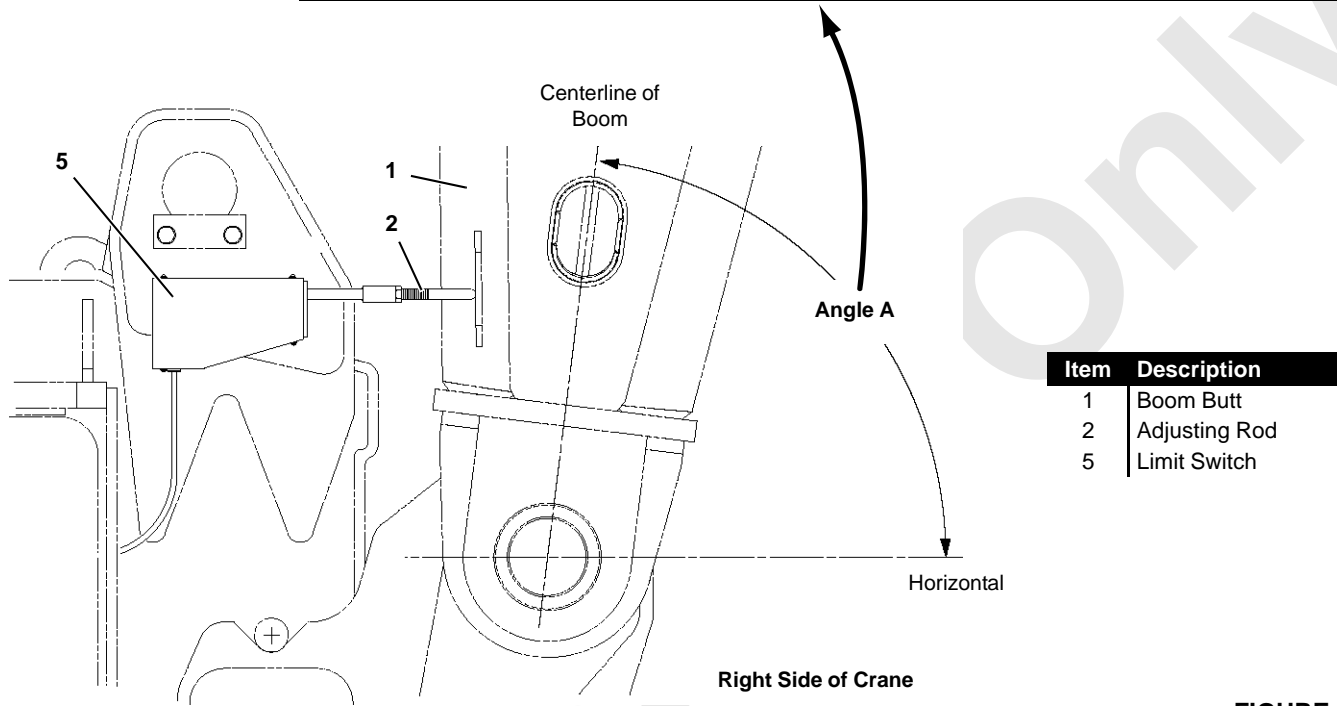

FIGURE 6-2
2. Have an assistant push adjusting rod (2, Figure 6-2) in to trip the boom stop limit switch open.
Boom stop limit switch (5, Figure 6-2) automatically stops the boom and applies the boom hoist brake when the boom is raised to **Angle A** given in Figure 6-2.
3. Raise the boom to specified **Angle A** (Figure 6-2) while monitoring the angle on the mechanical indicator or on the operating conditions screen of the front-console display.